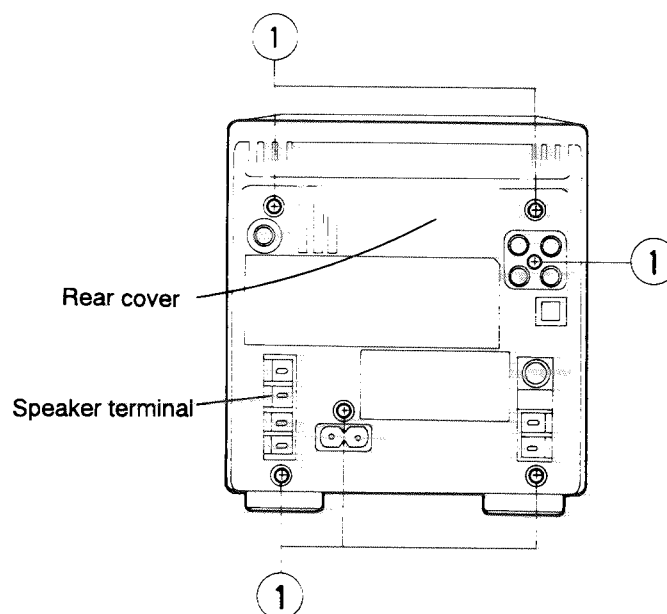

Fig. 5-1
### ■ Removing the rear cover and side panel (See Figs. 5-1~5-4)
1. • Remove the six screws ① retaining the rear cover from behind the body.
• From the bottom face of the body, remove the four screws ② retaining the rear cover.
• After passing the lock pawls at the speaker terminals through the position in Fig. 5-1, remove the rear cover.
2. • Remove the two screws ③ retaining both of the right and left side panels.